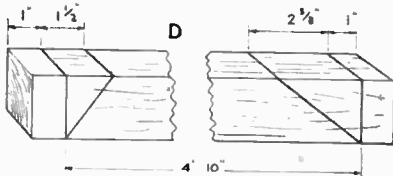

Fig. 2—Angle piece front section cutting two pieces
In the cutting list the two pieces (D) are given as 5ft.; this is to give sufficient material for cutting the angles correctly. Mark out and cut as shown in Fig. 2.